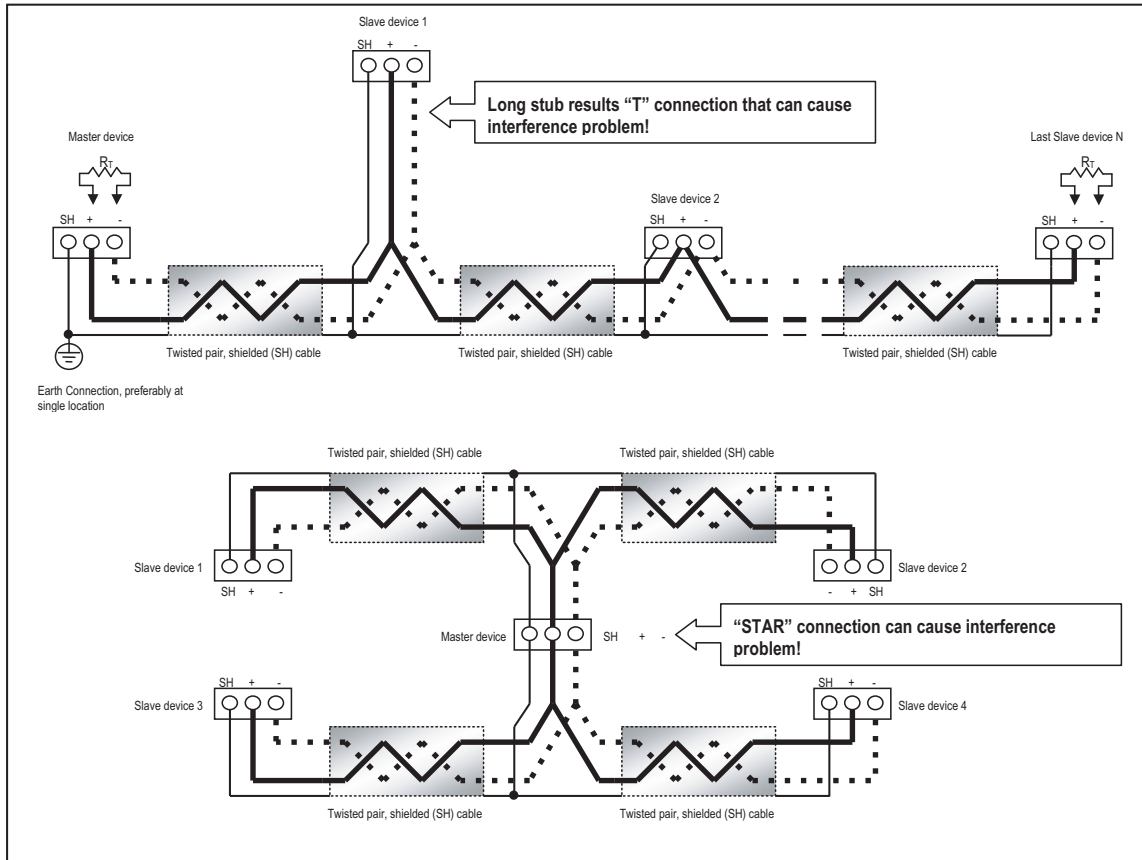

Figure 5.6: Incorrect “T” and “Star” Topologies
- Avoid both “star” and “tee” connections (see Figure 5.6). No more than two cables should be connected at any one point on an RS485 network, whether the connections are for devices, converters or terminal strips.